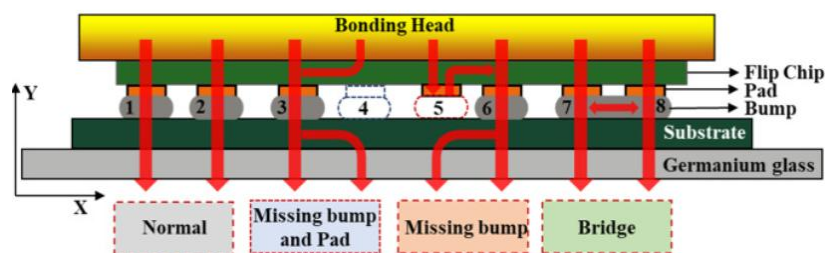

Fig. 5b – Flip-Chip package with different defects.
b) Figure 5b shows a Flip Chip package with different defects. Construct equivalent thermal resistance models for all the sections of the flip chip, considering the direction of heat flow in the package.